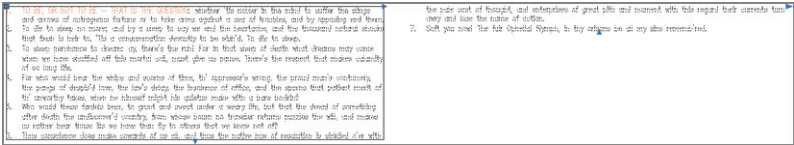

FIGURE 10.16 Moving the bottom grip up to create two columns
- 2. Click once on the numbered Hamlet text to select it and reveal its grips. Click the Column Height (bottom) grip, move it upward, and click again, automatically creating two columns, as shown in Figure 10.16.